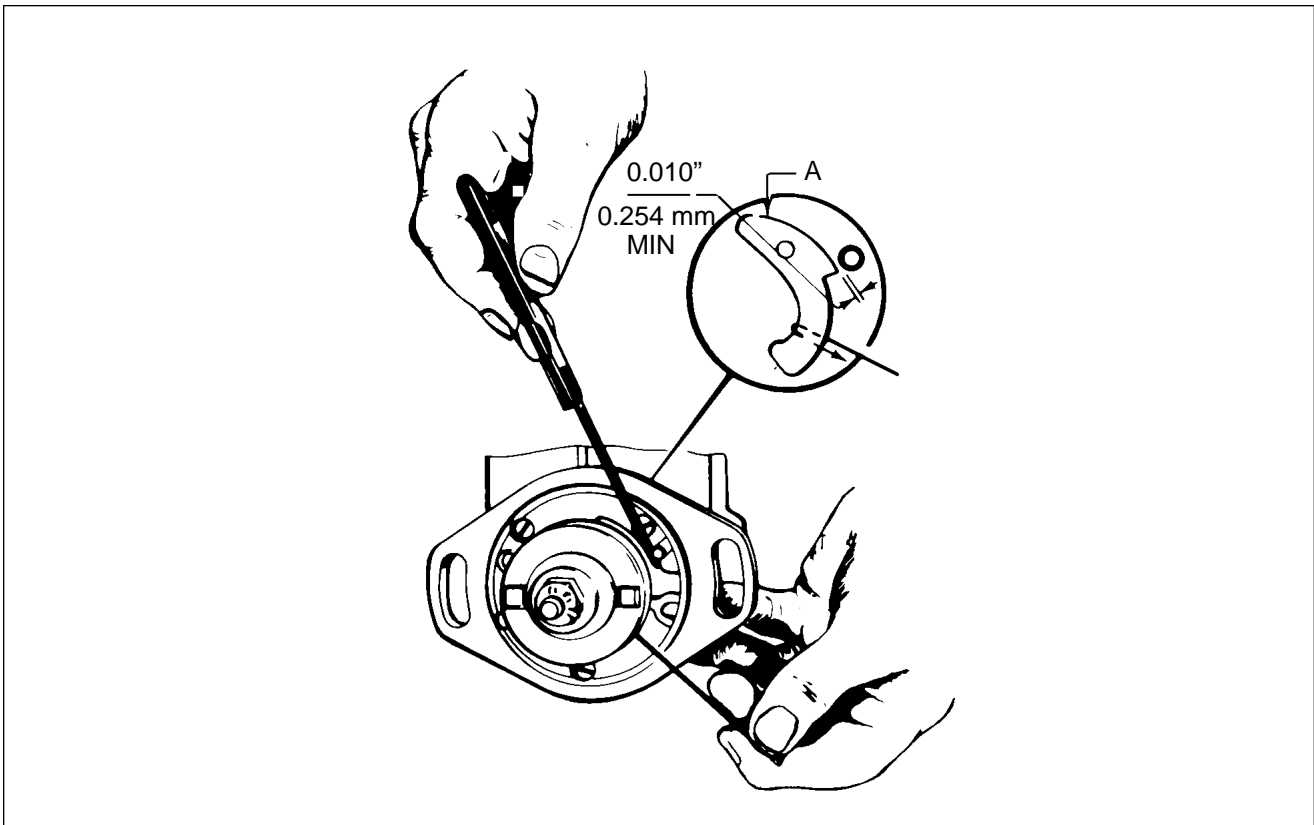

Figure 74-5. Flyweight Clearance of Impulse Coupling
- b. Hold magneto as shown in Figure 74-5. Pull heel of flyweight outward with the hooked wire and make certain that feeler gauge of 0.010 inch (0.254 mm) minimum thickness will pass between stop in and the highest point of the flyweight.